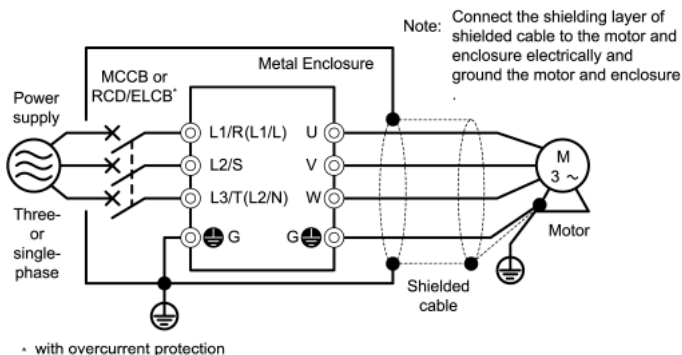

Figure 10.3 Installing the EMC Filter Built-in Type of Inverters into a Metal Enclosure
- 5) If noise from the inverter exceeds the permissible level, enclose the inverter and its peripherals within a metal enclosure as shown in Figure 10.3.